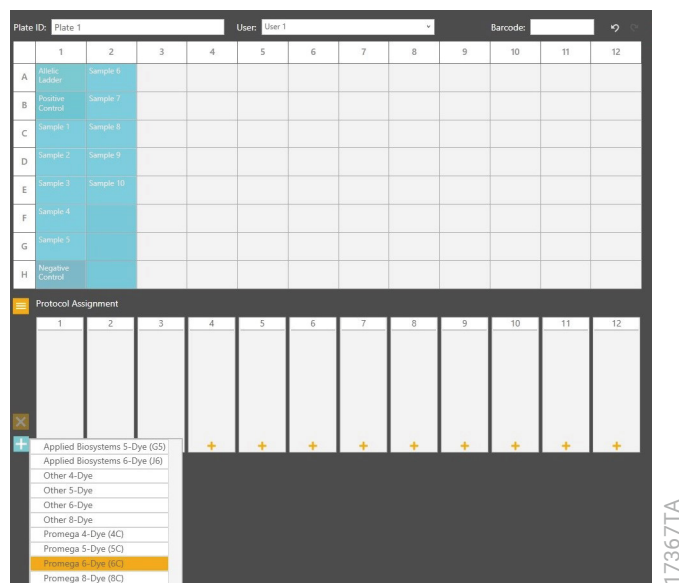

Figure 12. Assigning run protocol to multiple injections.
- To add a run protocol to multiple injections, highlight the desired injections in the plate map (click-drag, Ctrl + click or click the upper left cell). Then select the **+** button on the left side of the injection information section and choose **Promega 6-Dye (6C)** (Figure 12) from the pop-up menu.